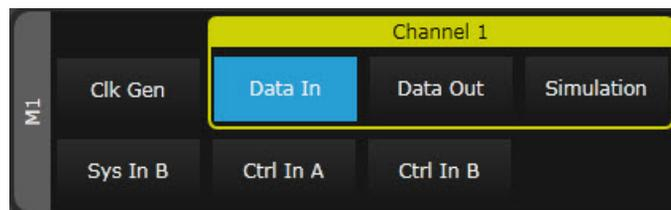

Figure 46 Select Channel 1 DataIn
- 12 Click on **Channel 1** > **DataIn** corresponding to the M8041A (M1) as shown in Figure 46 on page -87.